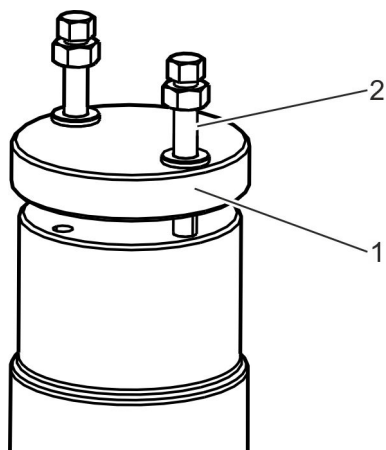

Fig. 30: Inserting the fastening screws
- 7.** ➤ Insert the fastening screws (Fig. 30/2) into the blocking device (Fig. 30/1) and bolt them into the two holes on the opposite side of the body of the spring-loaded over pressure safety device by evenly applying a tightening torque of 7 Nm.